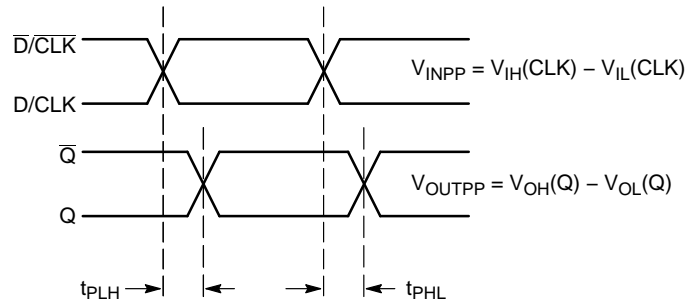

Figure 10. AC Reference Measurement
22. See Figure 10.  $t_{SKEW} = |t_{PLH} - t_{PHL}|$  for a nominal 50% Differential Clock Input Waveform.